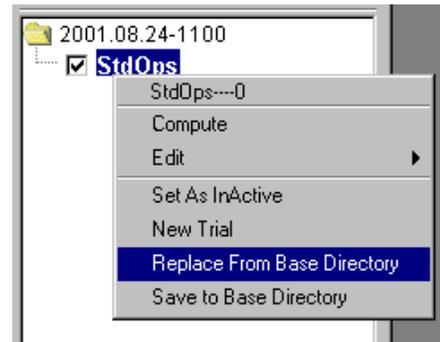
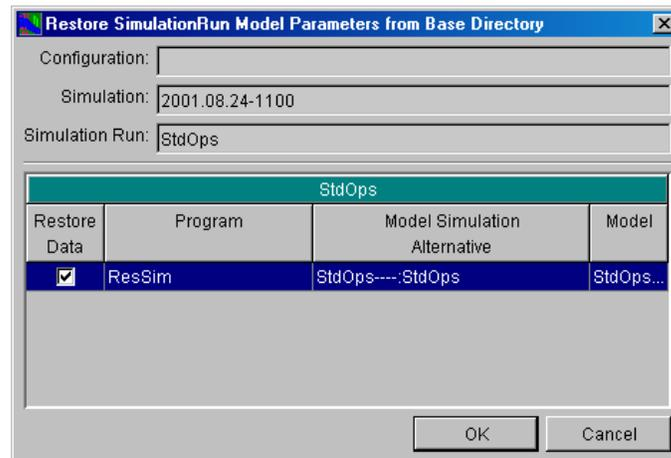

Figure 14.45 Alternative Shortcut Menu: Replace from Base Directory
Figure 14.46 Replace Simulation Run Model Parameters from Base Directory
1. From the Simulation Control Panel, right-click on the Alternative to access the shortcut menu, then choose **Replace from Base Directory** (Figure 14.45). The **Replace Simulation Run Model Parameters from Base Directory** dialog box will appear (Figure 14.46).